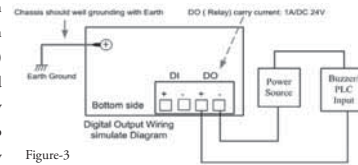

Figure-3
The relay output contacts are in the bottom side as shown on Figure-3. The relay output (DO) is controlled by the pre-defined operating rules. To activate relay output function, please refer to the User's Manual for the Relay Output information.